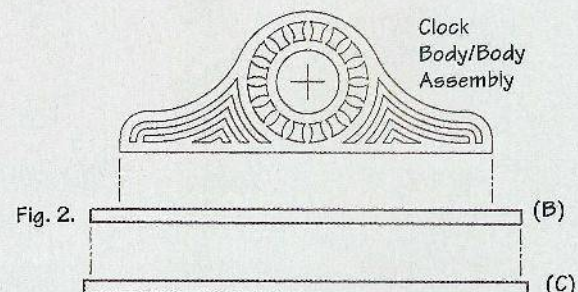

Fig. 2.
Step 13. Glue the upper base (B) to the lower base (C). Then glue the clock body/body assembly to the base assembly (see Fig. 2). All of these parts need to be centered.